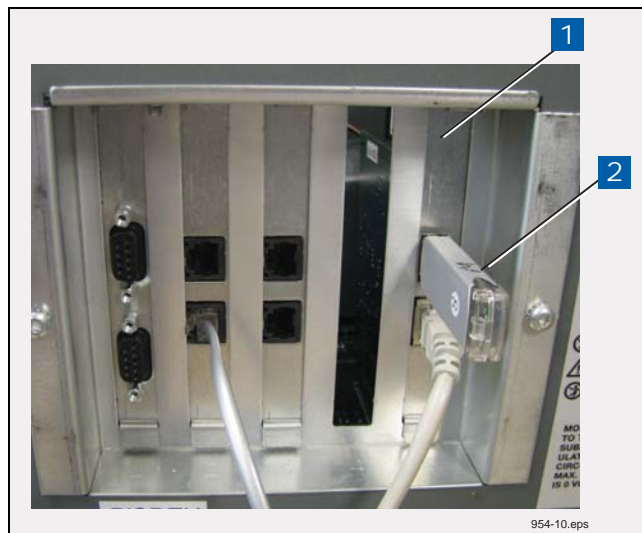

Figure 1. USB/Ethernet board - V-R thumb drive ports
1. Insert the V-R Backup thumb drive (P/N 330020-607) in the external USB port on the USB/Ethernet card, P/N 332913-001 (see item 2 in Figure 1).
LEGEND FOR NUMBERED BOXES IN Figure 1
Cables to the console's Comm modules attach to connectors on each module's end plate, and are accessible through an opening in the base of the console (see Figure 1).